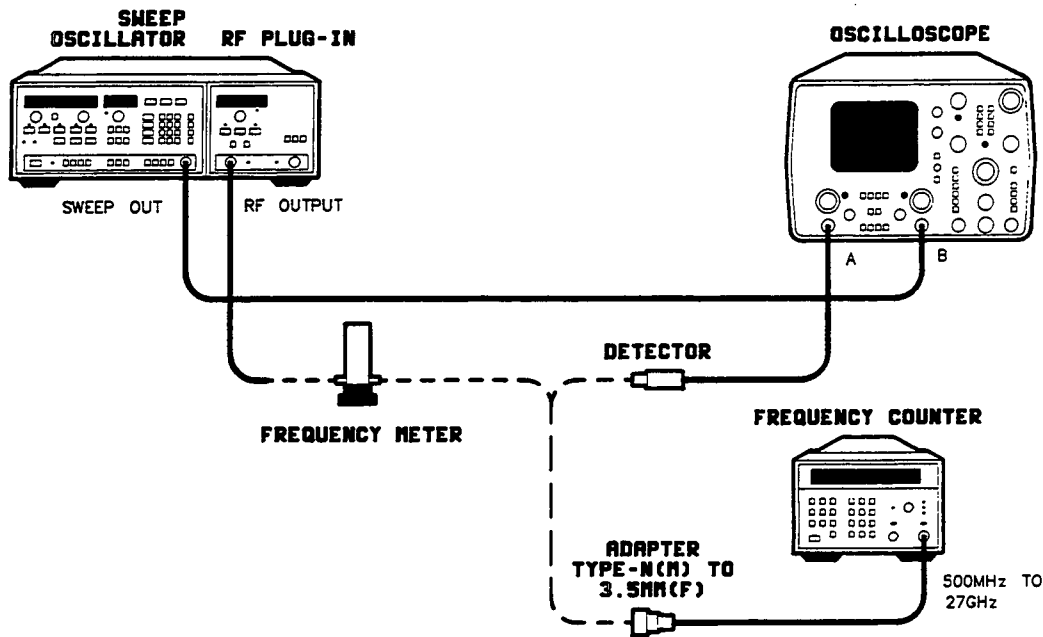

Figure 4-1A. Alternate Swept Frequency Accuracy Test Setup
- 1A. Connect equipment as shown in Figure 4-1A. Use the frequency meter necessary to cover the tested frequency range of the HP 83592B.